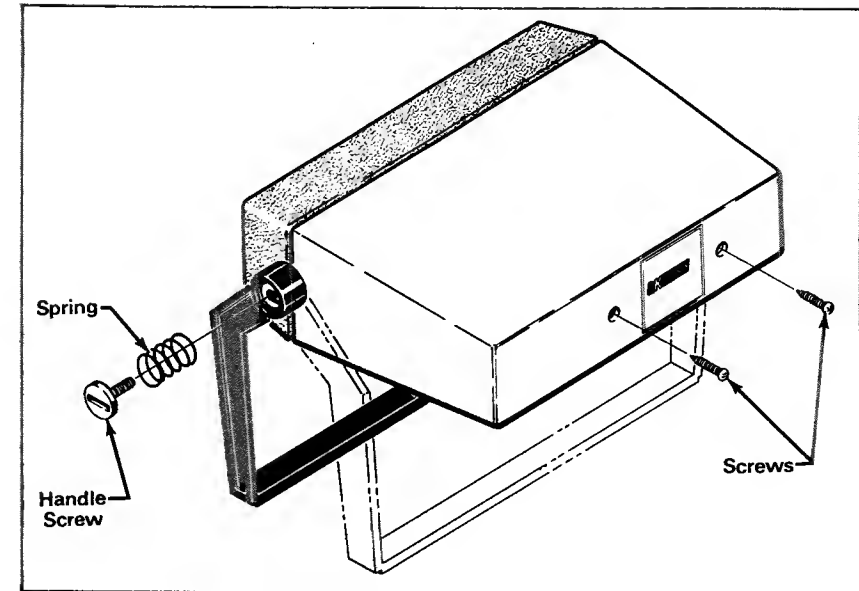

Fig. 24. Removal of rear case.
1. Use a coin (a quarter works best) to remove the two screws that hold the handle to the case. Use caution to avoid losing the springs beneath the screws that hold the handle on the case. Remove the handle. The handle may be reversed if the user desires. Refer to Fig. 24.